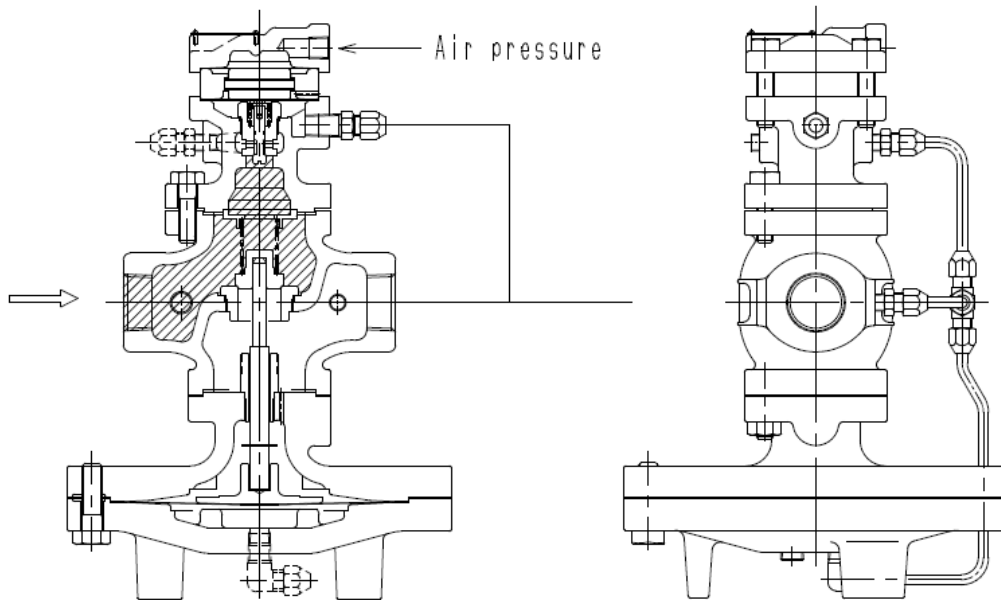

Fig.1
(1) When the pressure reducing valve is mounted correctly, the main valve [6] and pilot valve [17] should be closed by main valve spring [13] and pilot valve spring [19] when air pressure is no-pressure. Slowly open the gate valve and allow the high-pressure fluid to flow in. Inlet pressure is applied to the upside of the main valve. High pressure fluid passes through screen [15] to also apply inlet pressure to the downside of the pilot valve. (Fig. 1)